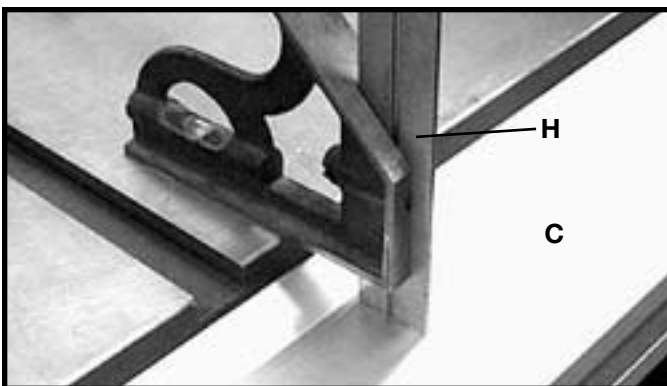

Fig. 53
7. Adjust the guide rail (C) Fig. 53, parallel with the saw table surface by placing a square (H) on the saw table at both the left and right front ends of the table, with the rule of the square against the flat surface on top of the guide rail. The guide rail (C) Fig. 53, can be adjusted up or down at either end. After you are certain the guide rail is parallel with the table surface, firmly tighten the two hex nuts that fasten the guide rail to the table.